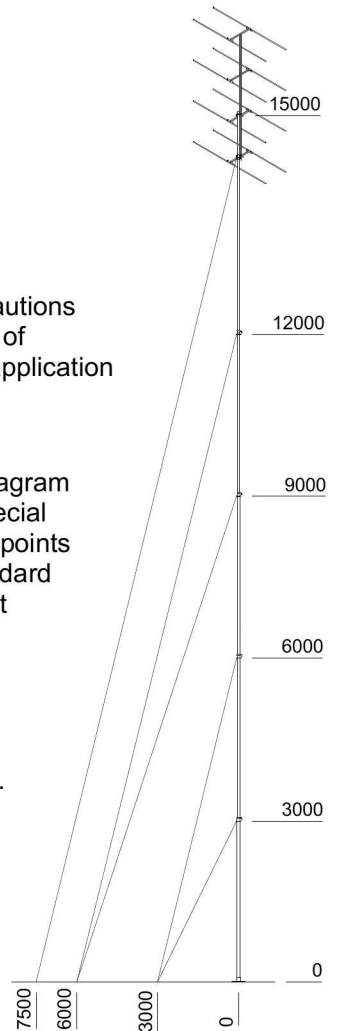

fig 1 15m Telomast arrangement
1. Select the site. For installation on a level surface, the staying diagram (fig 1) indicates the space required. For installation on pitched roofs, special guy lengths and loading conditions will apply. The base and guy anchor points must be capable of supporting the design loads from the mast. For standard installations the base and guy anchor loads are specified in table 2. Foot mounts are available for sloping (fig 2A) and level (fig 2B) surfaces.
2. Securely install the foot mount or base plate to the mast base fixing point. Attach turnbuckles to all guy anchor points. Note: to avoid possible over-stressing of the mast structure, it is important that the guy anchors be located no closer to the mast base than specified in figure 1.